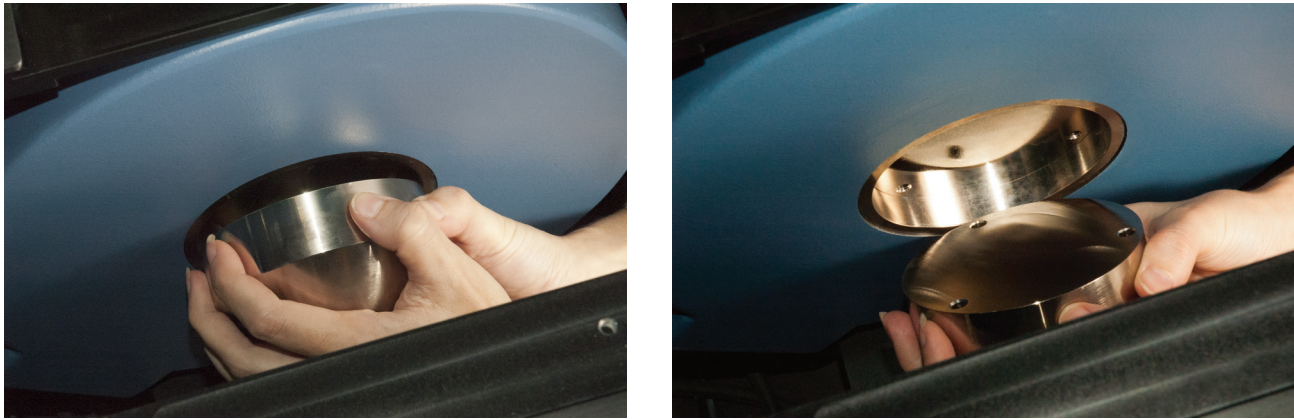

FIGURE 4-29 Pull the pole cap off its post being sure to support its weight with both hands
Be sure to support the weight of the pole cap as shown in FIGURE 4-29 so that it does not drop. Failure to comply with this warning could result in damage to the instrument or bodily injury.
6. Remove the pole cap from the pole (FIGURE 4-29).